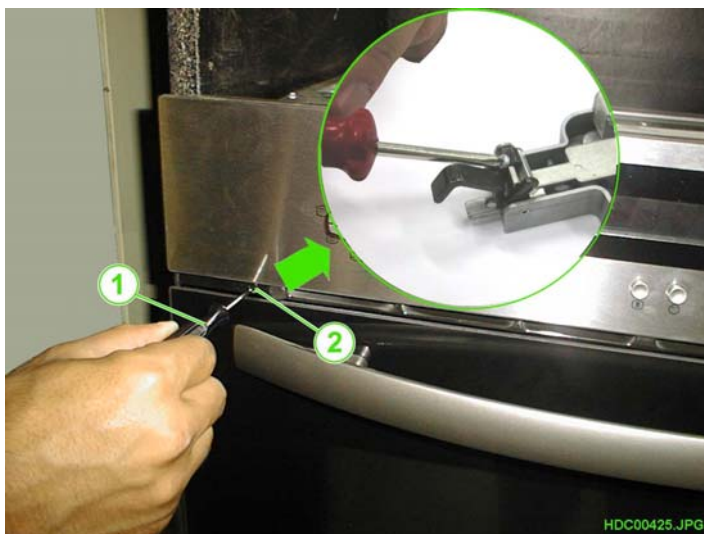

Fig. 44
2. Remove the screw which secures the latch; in the way, the latch can be raised to release the door (see fig. 44).